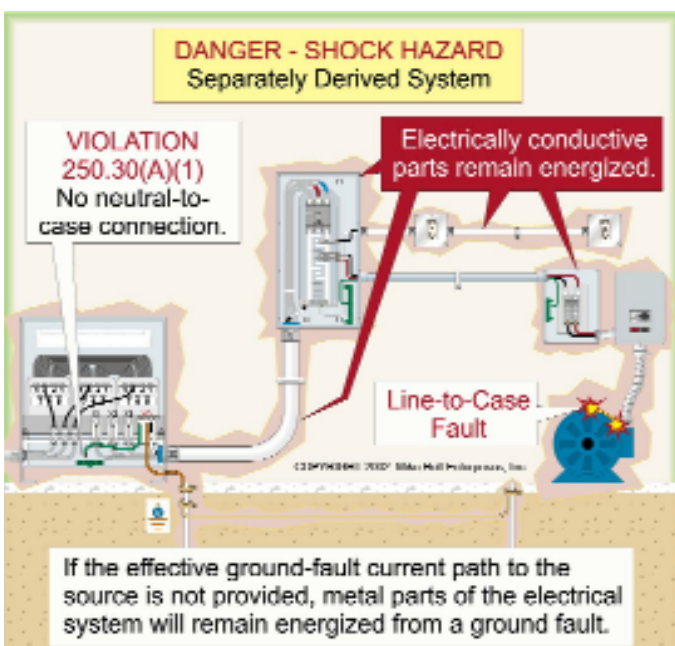

Figure 250-76
*grounded (neutral) terminal of the separately derived system, then a ground fault cannot be cleared and the metal parts of electrical equipment, as well as metal piping and structural steel, will remain energized providing the potential for electric shock as well as fires. Figure 250-76*